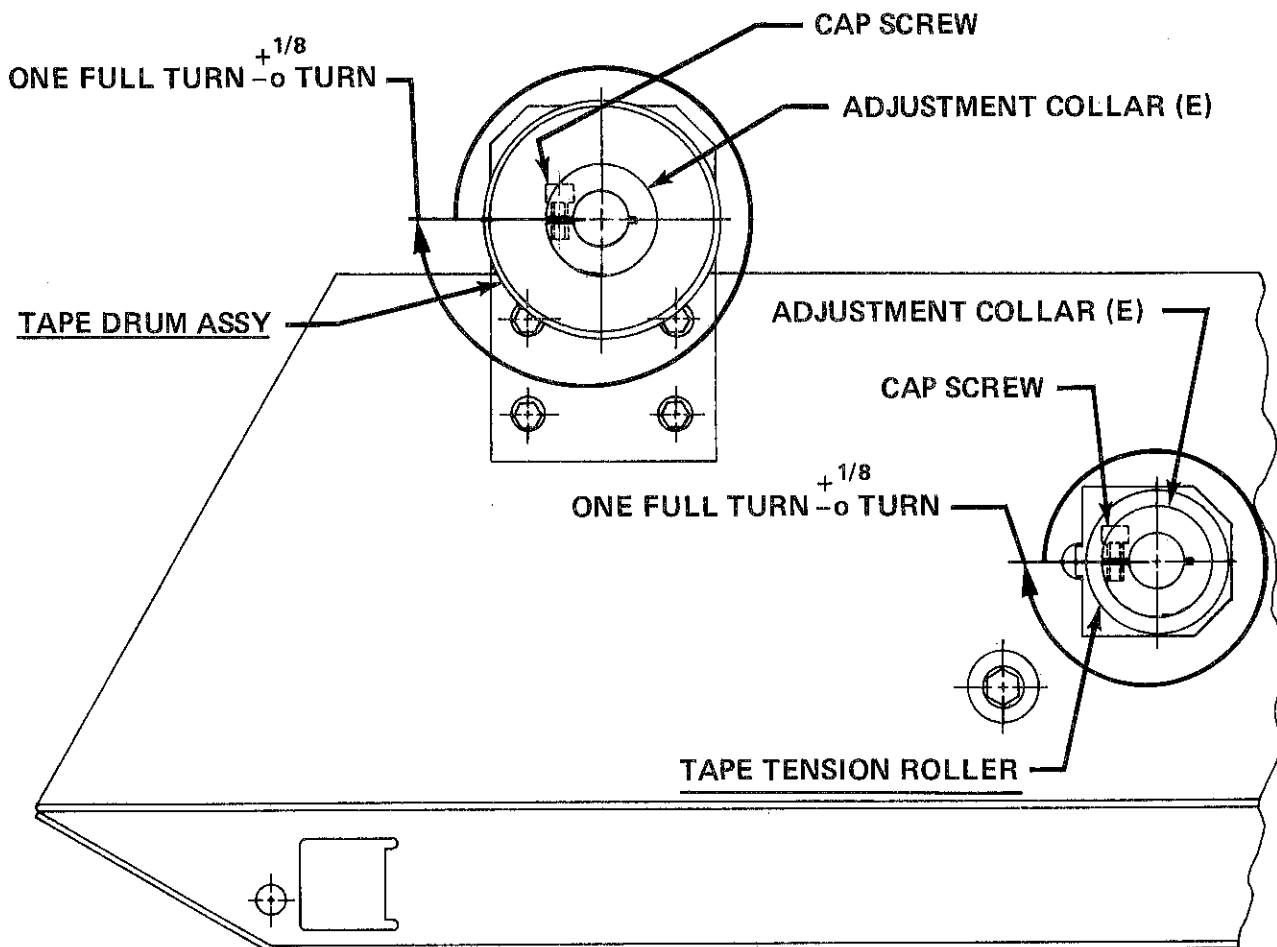

FIGURE 8 - TAPE TENSION ADJUSTMENT - RIGHT SIDE VIEW UPPER HEAD
Tape Tension - Refer to Figure 8
Tape tension is required for satisfactory tape applications and is controlled by the adjustment collars (E) on the tape drum assembly and tension roller assembly. However, if tape width alignment or part replacement is required, refer to Figure 8 and make the following adjustment to each assembly:
- 1) Assemble all parts in the proper sequence and turn the adjustment collar (E) to take up all the clearance between the parts.